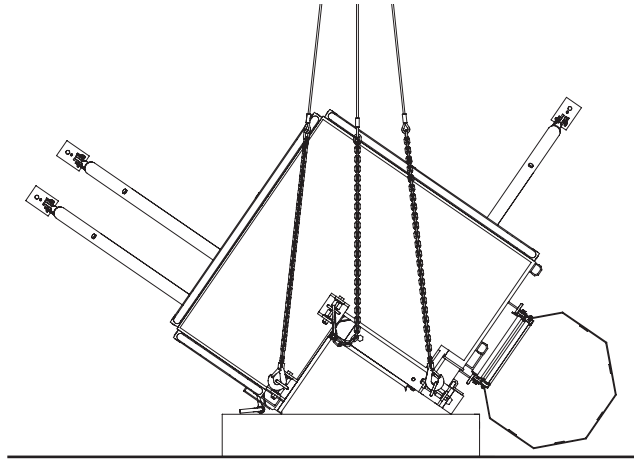

Fig. A3.01
1. Attach 3-sling lifting gear to the crane eyes, lift formwork to a vertical position and then transport to the place of use. (Fig. A3.01)